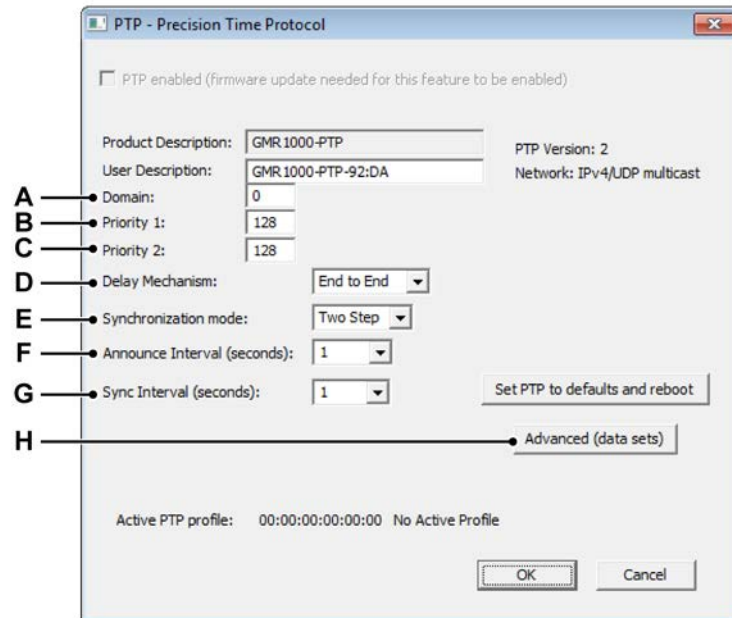
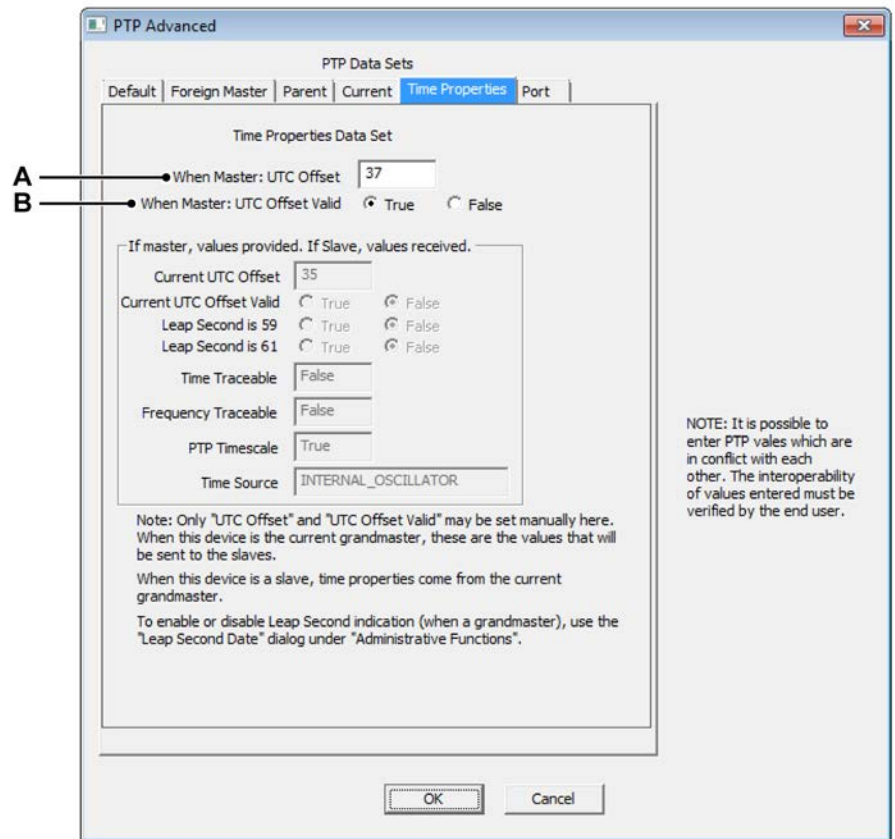

Figure C.23: PTP - Precision Time Protocol
Figure C.24: PTP Advanced - PTP Data Sets/Time Properties settings
- Click the **Advanced (data sets) button (H)** in PTP - Precision Time Protocol window (see Figure C.23) to open the **PTP Advanced** settings (see Figure C.24).